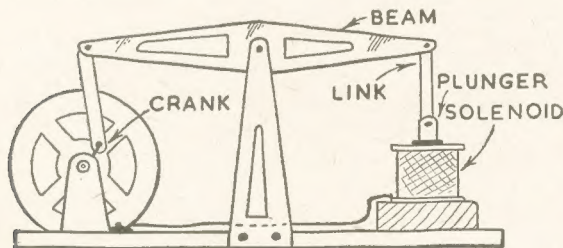

Fig. 2—Side view of the engine
The beam is cut to the shape shown in Fig. 2 and is about 6ins. long. It should be made from $\frac{1}{4}$ in. thick wood so that a vertical saw-cut is possible at each end, where the connecting links will be pivoted, as shown at (A) in Fig. 3. These links should be cut from thin metal and have a small hole drilled near each end.